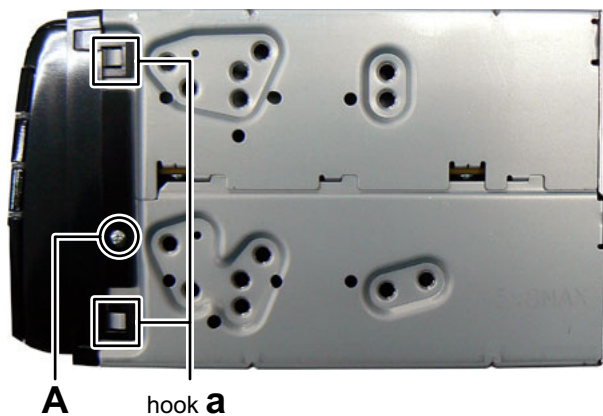

Fig.1
3.1.1 Removing the Front panel (See Fig.1)